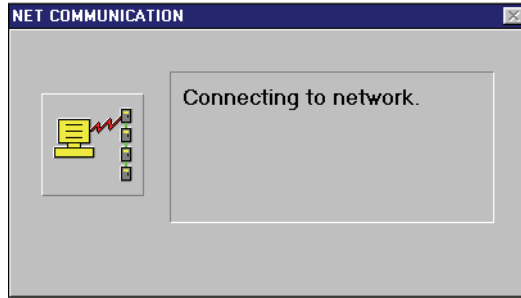

Figure 5-35: Connecting to the Network
3. Once all parameters are collected, the host computer connects to the access control network (if it isn't already connected). The Net Communication window appears if the access control network connection needs to be made (see Figure 5-35 on page 36 of this section).